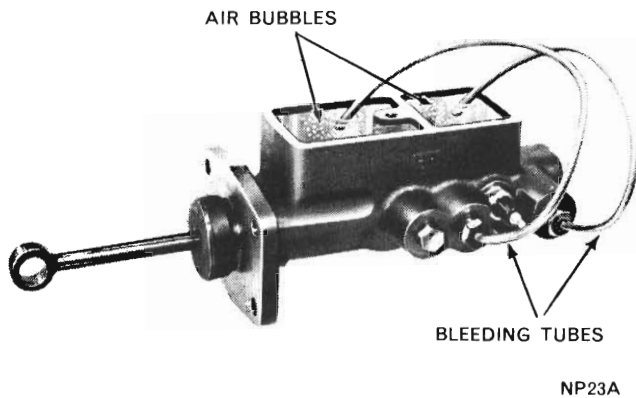

Fig. 6 - Bleeding master cylinder
(1) Clamp master cylinder in a vice and attach bleeding tubes (Tool E5C10) (Fig. 6). Be sure that a residual pressure valve is on end of each tube in large capacity reservoir. (This keeps brake fluid from being syphoned out of reservoir during bleeding operation and assists the bleeding operation of disc brake models).
(2) Fill both reservoirs with Chrysler HD brake fluid.
(3) Fully depress push rod slowly. (Note air bubbles.) Allow pistons to return under pressure of springs. Do this several times or until bubbles cease to appear (Fig. 6).
(4) Remove bleeding tubes from cylinder and install plugs in outlets. (As tubes are removed fluid remaining in tubes will syphon out.)
(5) Place cover and gasket correctly over reservoirs and secure with retaining clamp and screw. Tighten to 60 lbs. in. torque.
(6) Remove master cylinder from vice and install on vehicle as described in "To Install".
(7) Bleed system as described in Para. 4, of Part 1, Page 5 - 6.